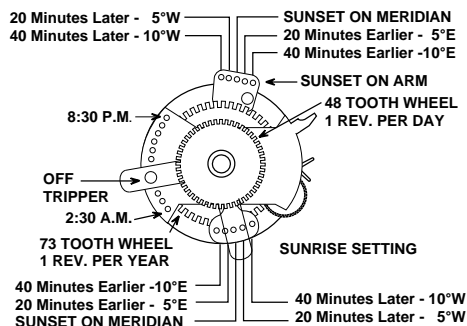

FIG. 2 — BACK OF DIAL ASSEMBLY
**OFF TIME CAN BE FIXED** at any time between 8:30 P.M. and 2:30 A.M. by depressing OFF pointer and moving it until desired OFF time is indicated on dial. See figure 2.
**TO ADJUST FOR LOCAL CONDITIONS:** Remove dial by removing center dial screw. Move pin in ON (Sunset) lever in the appropriate direction. See figure 2. Each hole is approximately 20 minutes. OFF (Sunrise) time may be similarly adjusted by depressing lever and moving to desired setting.